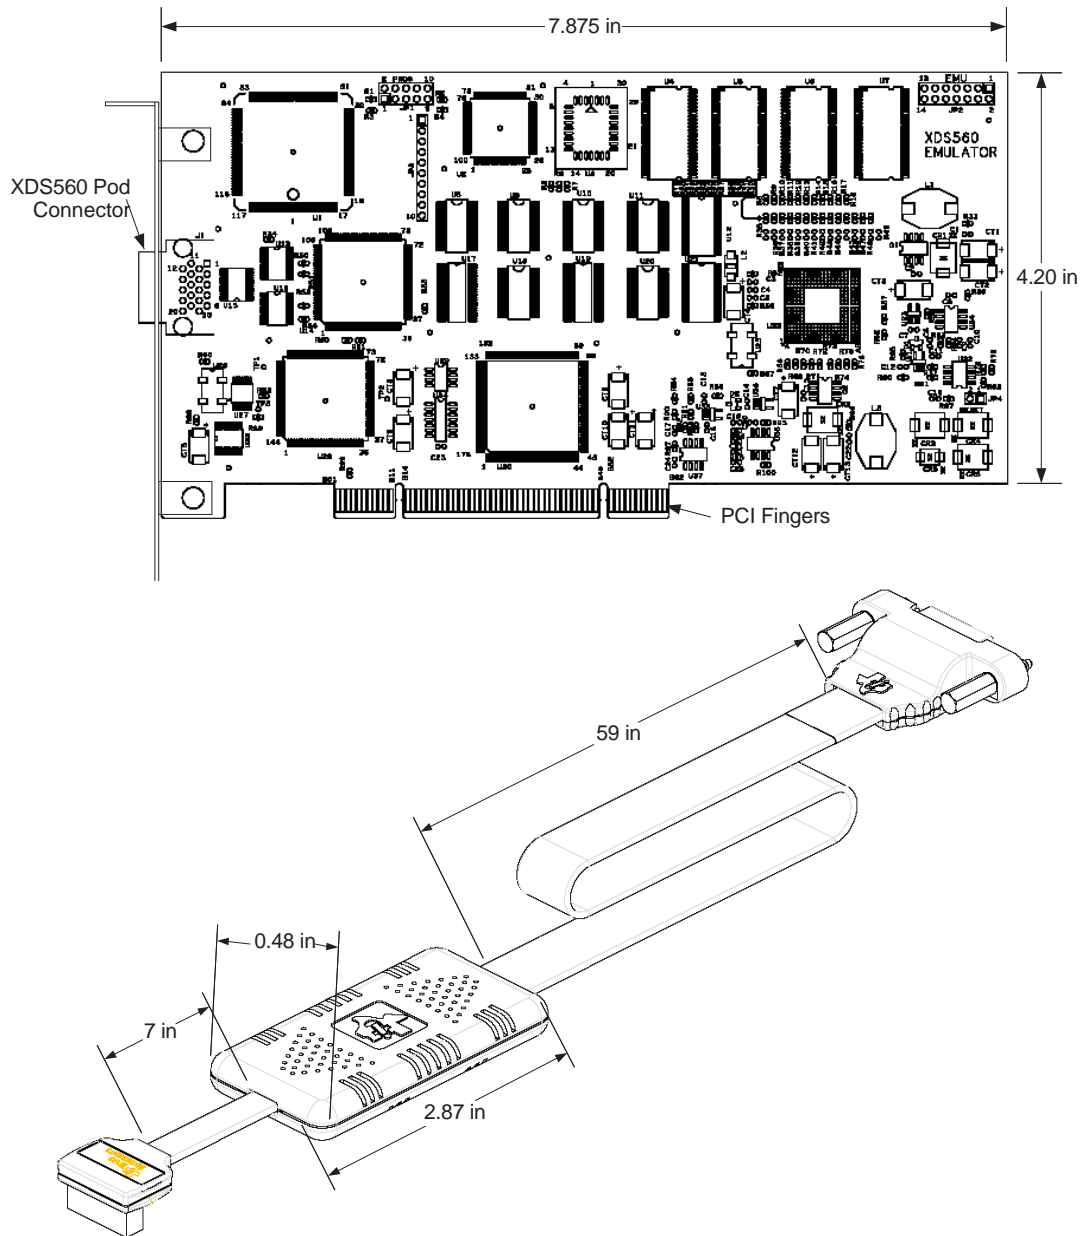
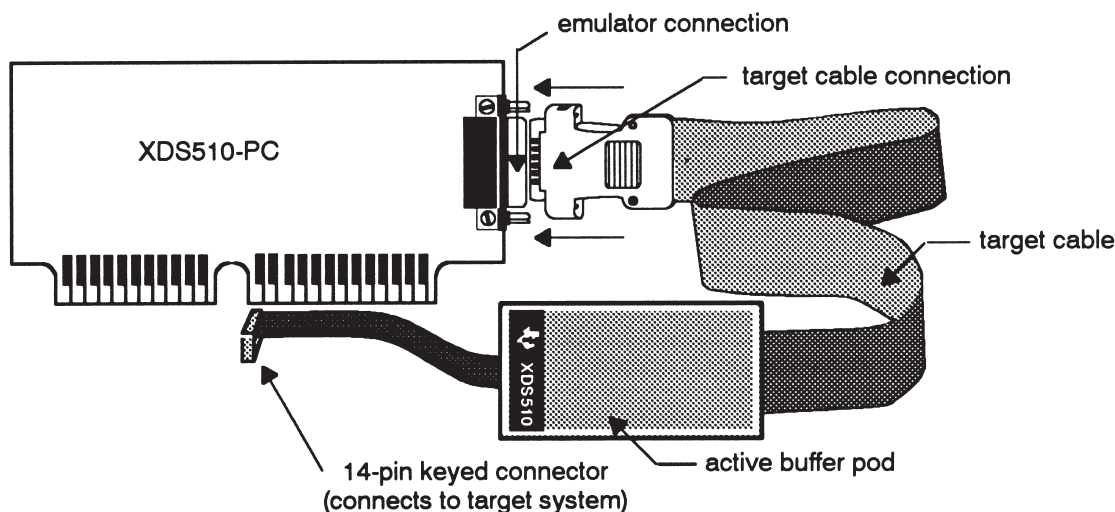

Figure 1. Connecting the XDS560 PCI card to the Target System
Figure 2. Connecting the XDS520 ISA card to the Target system
When using a personal computer (PC), the JTAG connection to the target processor can be made through several options including a PCI card (Figure 1), ISA card, (Figure 2), USB, PCMCIA, Ethernet, or many other options. This information regarding the scan control is available to the PC host via dynamically linked libraries (DLLs).